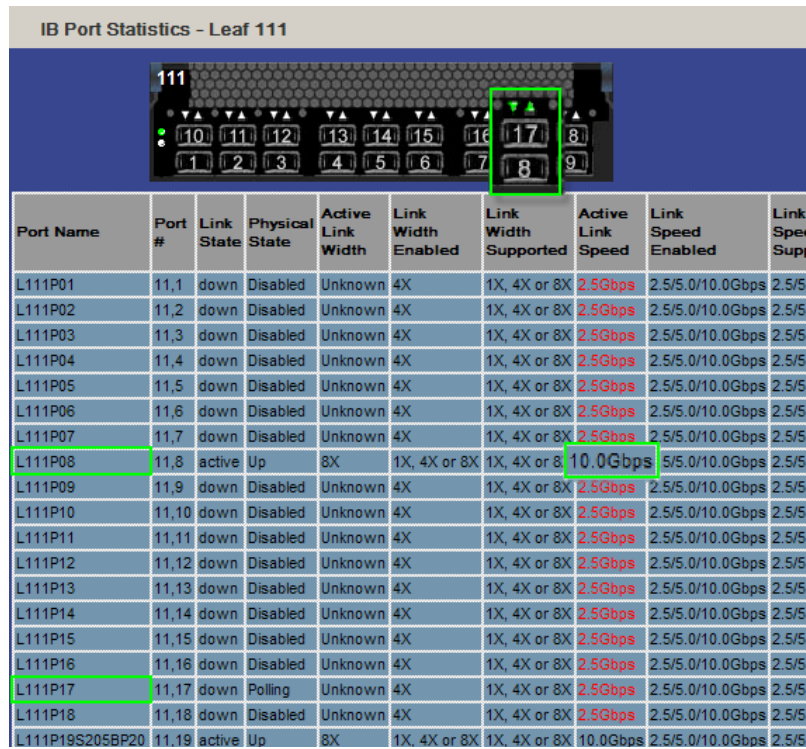

Figure 1-54. 8X Port Statistics
6. From the Chassis Viewer main menu, click on **Port Stats** then **IB Port Stats** to display the IB Port Statistics screen. The 8X port (for DUO of cable ports 8 and 17) is displayed (see Figure 1-54).